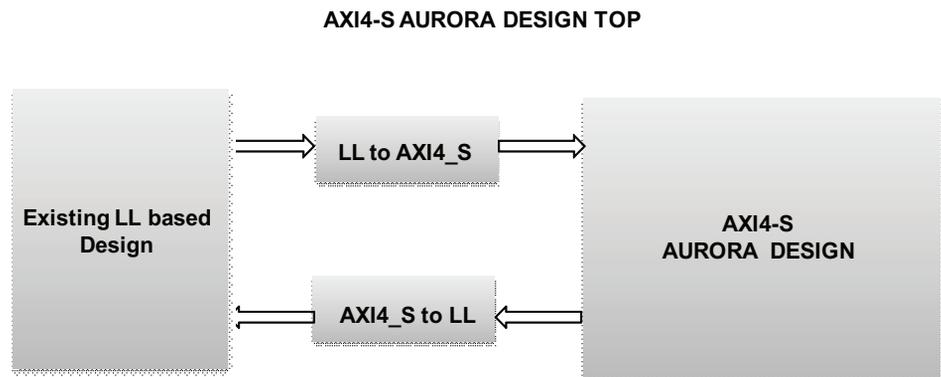

Figure D-2: AXI4-Stream Aurora Example Design
2. See Figure D-2, page 100 for the emulation of an LL Aurora core from an AXI4-Stream Aurora core.
5. Connect the shim and AXI4-Stream Aurora design as shown in Figure D-2, page 100.